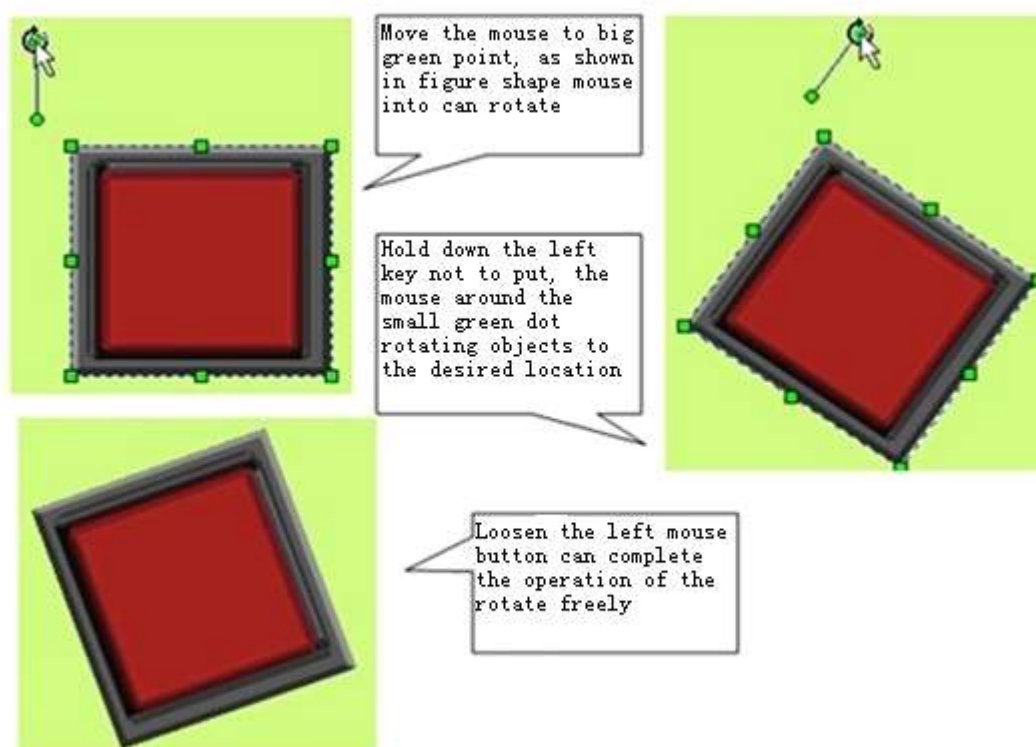

Figure 4-11: Steps of free rotation
3. Move the mouse to the larger green dot, and then the mouse shape will become . Press down the left key of the mouse and move it to rotate the graph to appropriate position and then release the left key. If you move the mouse clockwise, the chosen graph will rotate clockwise around the fixed center; If you move the mouse anticlockwise, the chosen graph will rotate anticlockwise around the fixed center. See Figure 4-11.